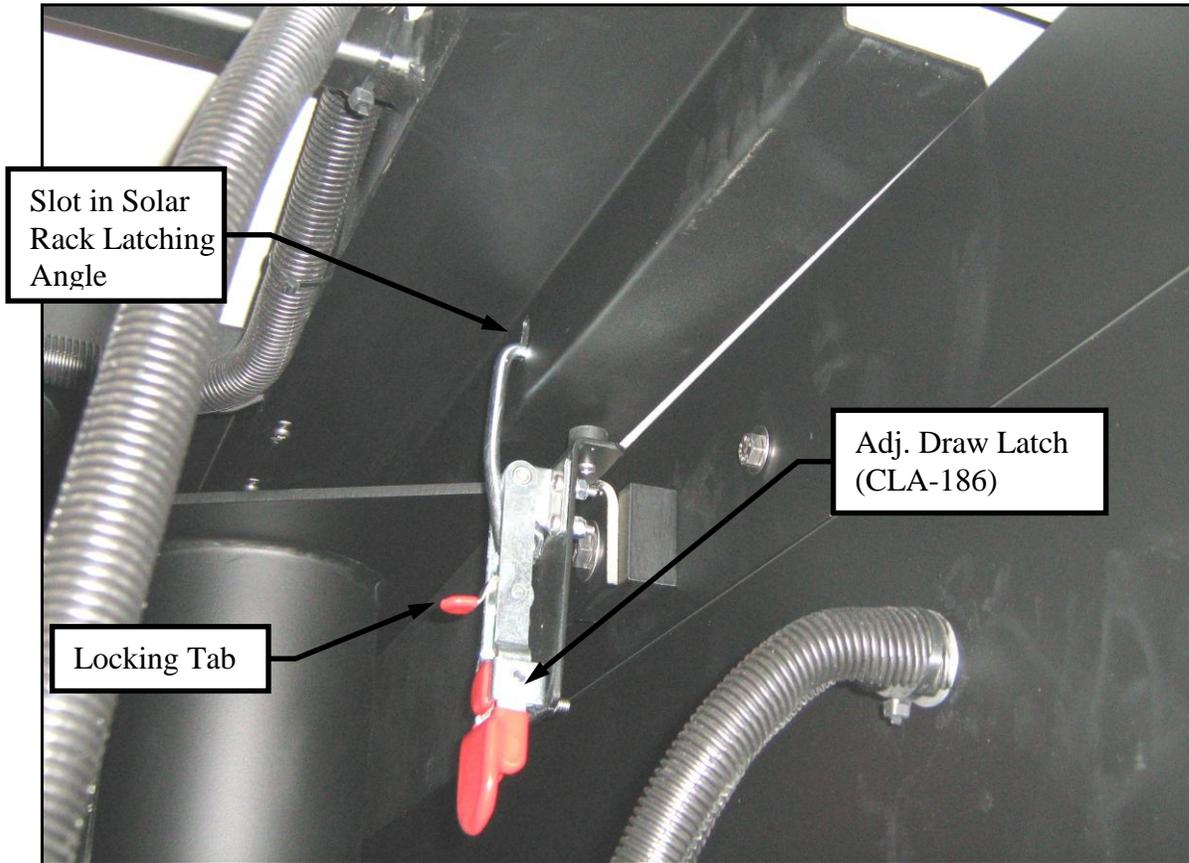

Figure 2. – Travel Hold down components (RH side shown)
3. Align Slots in Solar Rack Angle with Mast Adjustable Draw Latch, insert hook into slot and clamp Latch down (see Figure 2). After pulling Latch down, insure locking tab has been engaged. Repeat same latching procedure on other side of Solar Rack Assembly.